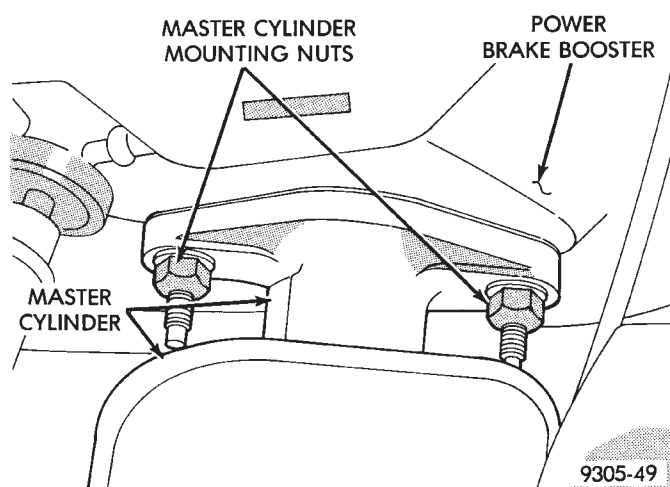

Fig. 86 Master Cylinder Mounting
(1) Disconnect primary and secondary brake tubes from master cylinder housing. Install plugs at brake tube outlets.
(2) Remove the 2 nuts (Fig. 86) attaching the master cylinder to the vacuum booster.
- (1) Install master cylinder on studs of vacuum booster, aligning the vacuum booster push rod with master cylinder piston.
- (2) Install the master cylinder mounting nuts (Fig. 86). Tighten the nuts to a torque of 28 N·m (250 in. lbs.).
- (3) Connect brake tubes to master cylinder primary and secondary ports. Tighten fittings to 17 N·m (145 in. lbs.) torque.